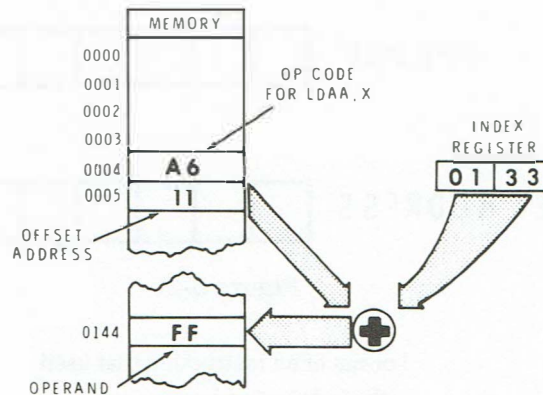

Figure 6-21
**Determining the Operand Address**—When indexed addressing is being used, the address of the operand is determined by the offset address and the number in the index register. Specifically, the 8-bit offset address is added to the 16-bit address in the index register. The 16-bit sum becomes the address of the operand. Figure 6-21 illustrates this.